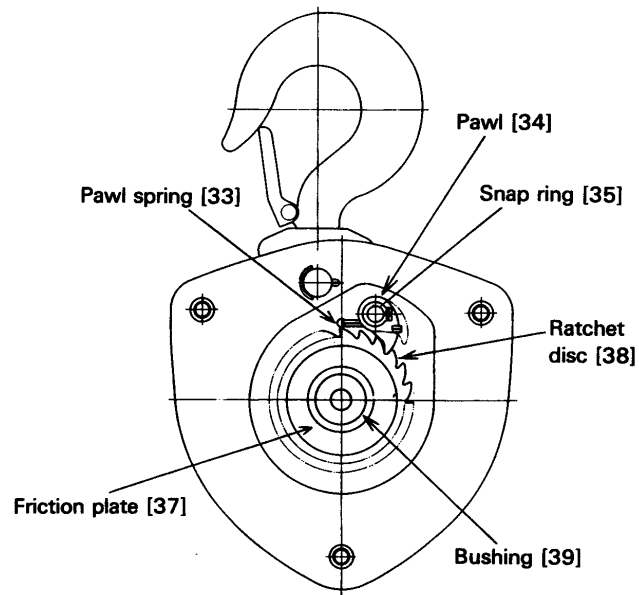

Figure 6-9 Pawl & Brake Assembly
- 15) Apply machine oil to the pawl pin (in side plate A [11]) and join the pawl spring A [33], and B [33] and the pawl [34] respectively to it. Fix them with a snap ring [35]. See figure 6-9.
- 17) Wipe out any dirt on the friction disc [36], friction plates [37] and both sides of the ratchet disc [38] and check if the oil of the bushing [39] (bushing with oil in it) is adequate. Then place the friction plate, bushing, ratchet disc and friction plate respectively on the friction disc. (Make sure that the ratchet disc and the pawl mesh properly). See figure 6-9.